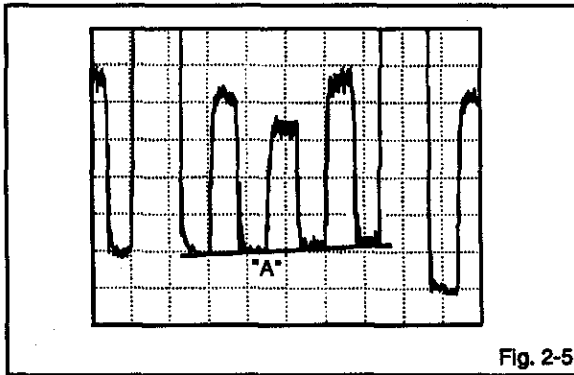

Fig. 2-5
5. Press the channel button (4) on the remote control.
6. Press the VOL. UP/DOWN button on the remote control until the section "A" becomes a straight line. (Refer to Fig. 2-5)